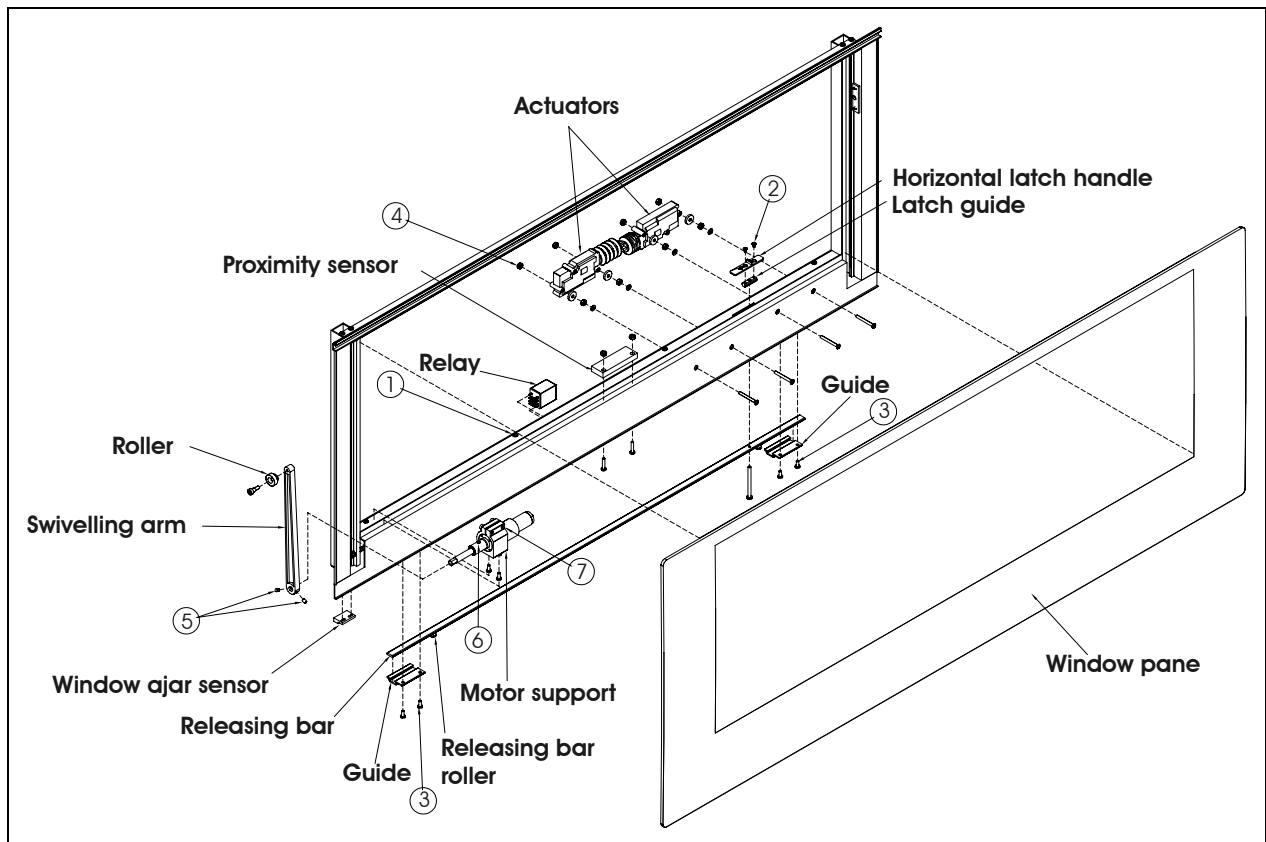

FIGURE 20: ELECTRIC AWNING WINDOW EXPLODED VIEW (SASH) 18583
4. Loosen the set screws #5 (figure 20) (rotate the arm to get to the second set screw) and disengage the swiveling arm from the motor shaft extension.